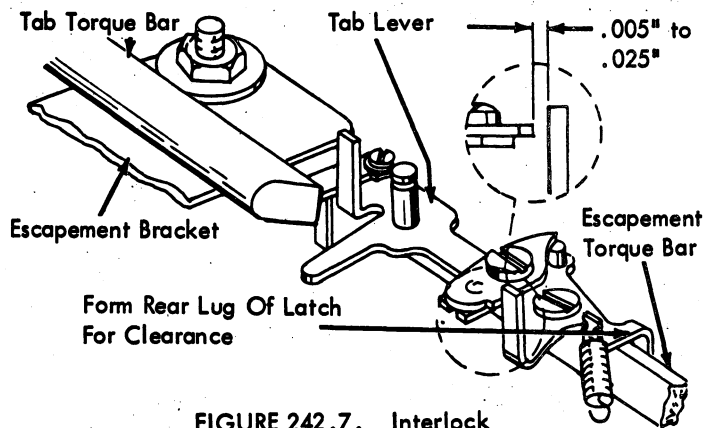

FIGURE 242.7. Interlock
11. Carrier Return/Tab Interlock (Fig. 242.7) - With the carrier return clutch latched, the upright lug of the tab latch should clear the end of the tab lever pawl by $.005''$ to $.025''$. The rear lug of the tab latch should be formed forward or back to obtain this condition.